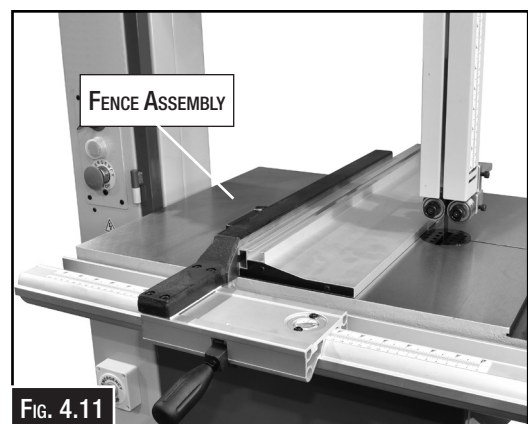

FIG. 4.11
5. Lock the fence by pushing down the locking handle. (Fig. 4.11)